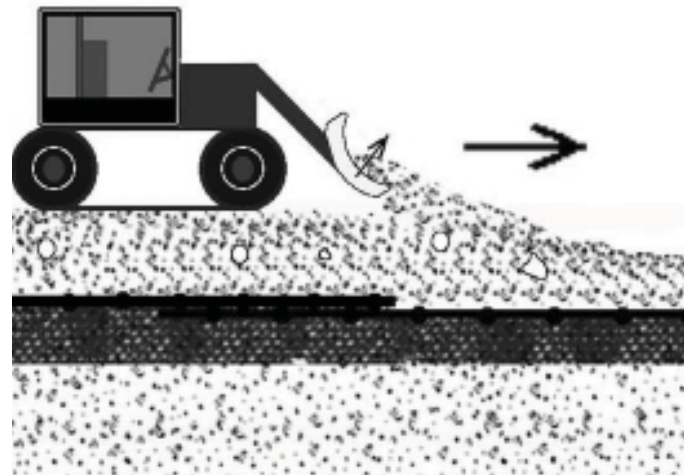

Figure 1: Geogrid overlapping and fill spread direction
* To minimize geogrid wrinkles caused by the shoving action, fill material shall be pushed forward and spread while gradually lifting the blade or bucket, as shown in figure 1.